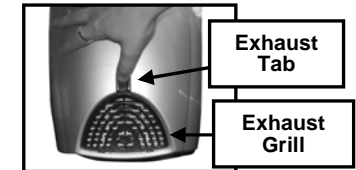

Fig. 16
- Pull up and hold the exhaust tab, with the free hand pull out the exhaust grill. (Fig. 16)